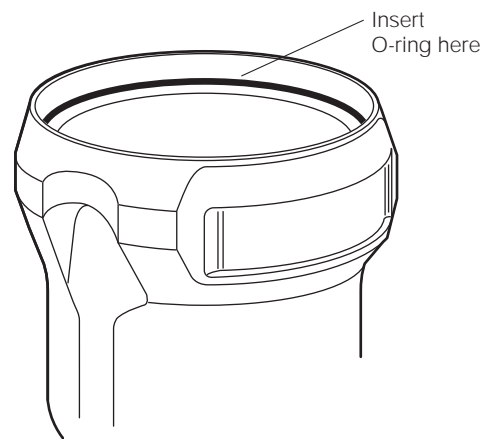

Figure 1. Proper Placement of O-Ring
3. Place the O-ring on the ledge inside the bucket (see Figure 1).